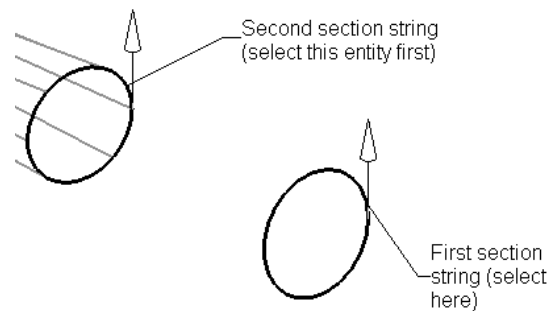

Figure 11-117 The resulting ruled surface created after selecting both cross-sections
4. Select the first section string, as shown in Figure 11-117. Next, press the middle mouse button; you are prompted to select the second section string.
5. Select the second section string, which is the edge of the surface created earlier, as shown in Figure 11-117. Note that the arrows should point in the same direction. Alternatively, you can control the shape using the **By Points** option in the **Alignment** rollout. Choose the **OK** button; the ruled surface is created.